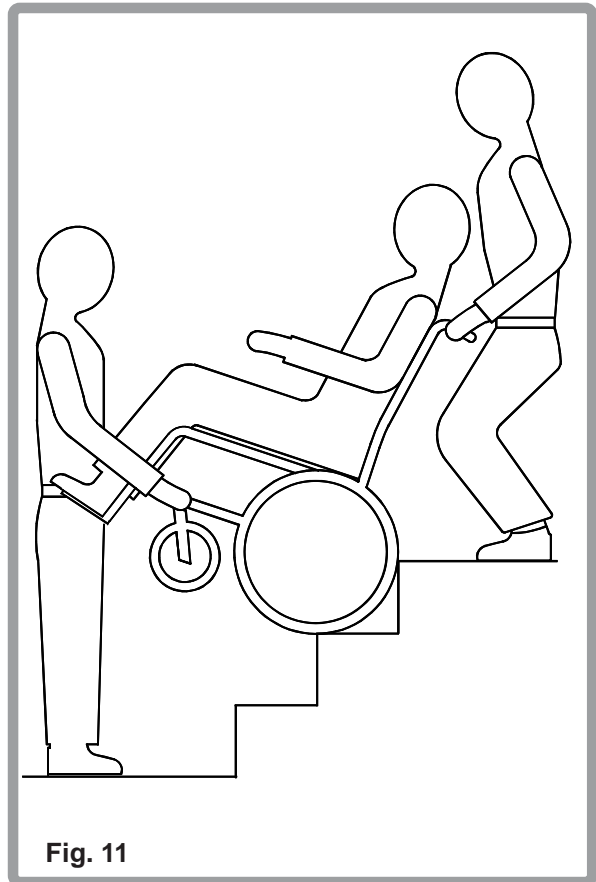

Fig. 11
1. Move the chair and rider forward down the stairs (Fig. 11).